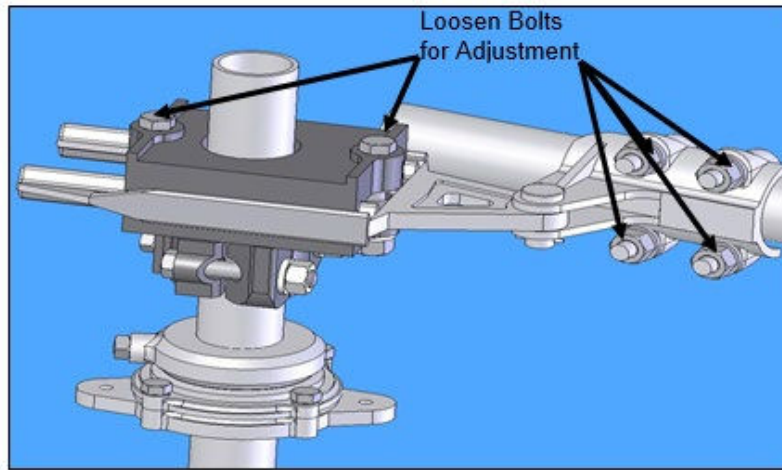

**Figure 23: Switch – Fully Closed Position**
- 6.3.1. Start with the disconnect switch and operating mechanism in the closed position. Refer to **Figure 23**